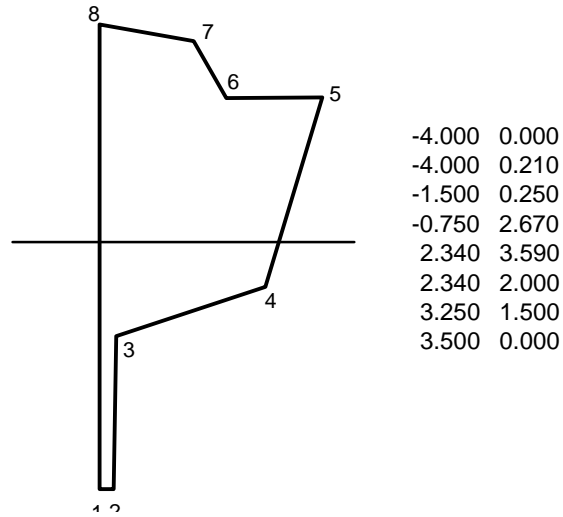

Fig. 2. Example of a section as represented in an .OFE file.
- The FIRST point on a section must be on the centerline ( $Y = 0$ ) at the BOTTOM of the section (Fig. 2).
- The LAST point on a section must be on the centerline ( $Y = 0$ ) at the TOP of the section (Fig. 2).